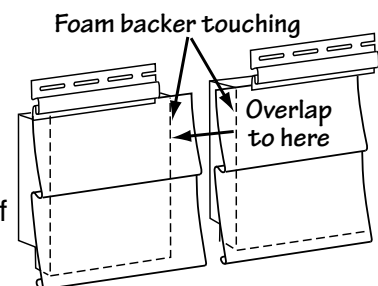

Figure 39.
- When overlapping insulated siding, no gap is needed between the foam at the ends of the panels. Be sure to butt each piece of foam together (Fig. 39), unless installing in cold weather (then consult the manufacturer's instructions).